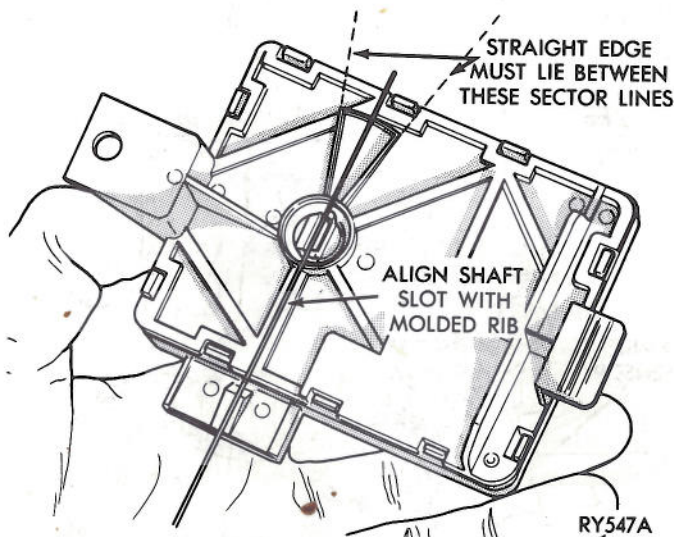

Fig. 7—Servomotor Shaft Alignment for Installation
### Electronic Servomotor—Install (Fig. 7)
- (1) Before installing motor, make sure that the shaft is properly positioned by checking alignment of shaft flats as shown in Fig. 7. A straight edge held against the shaft flat side should lie within the molded sector lines so the motor can be installed. If necessary, move the motor shaft to proper position using procedure described under "Servomotor Testing."
- (2) Align the key on the end of the blend-air door shaft with the slot in the motor shaft. Gently, press down on the servomotor until both motor housing legs touch the Heater-A/C unit cover. The two shafts should engage without need for excessive force.